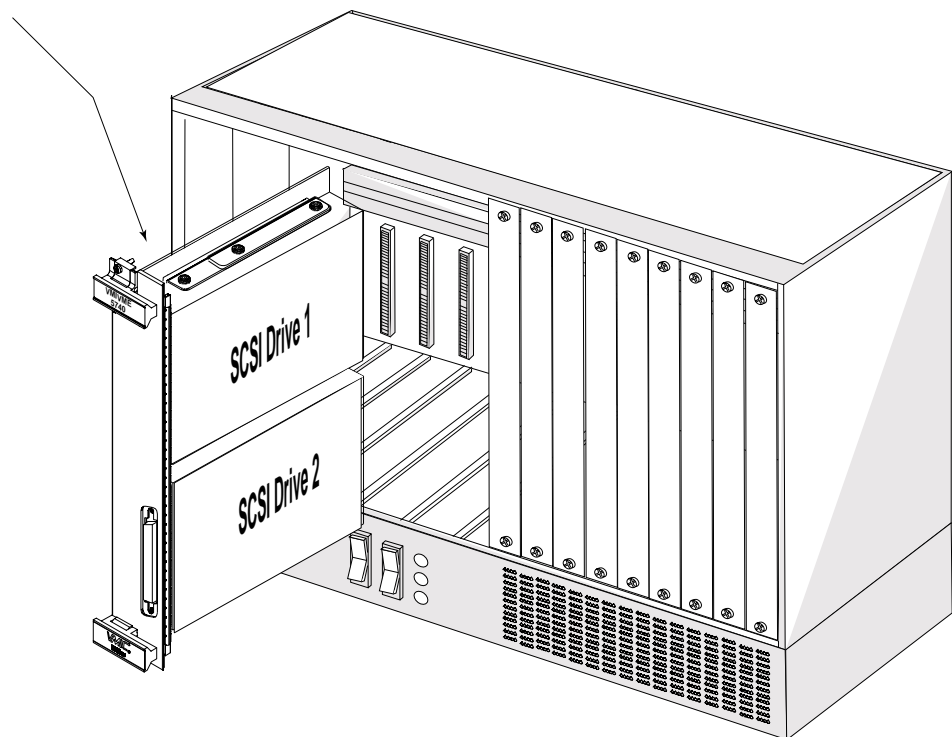

Figure 1-1 Installing the VMIVME-5740
- Figure 1-1 Installing the VMIVME-5740 11
2. Install the VMIVME-5740 firmly onto the backplane connectors (refer to Figure 1-1 for installation of the VMIVME-5740). Install the screws to secure the VMIVME-5740 front panel to the chassis.